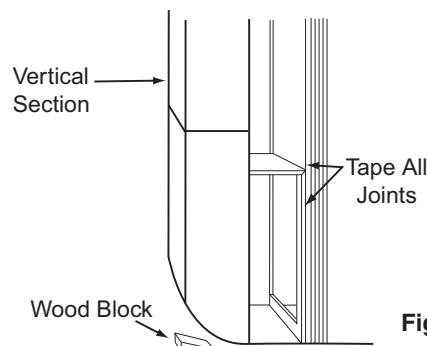

Figure 14
5. Connect the vertical duct section to the elbow. Wedge a wood block between floor and elbow for support (Figure 14).